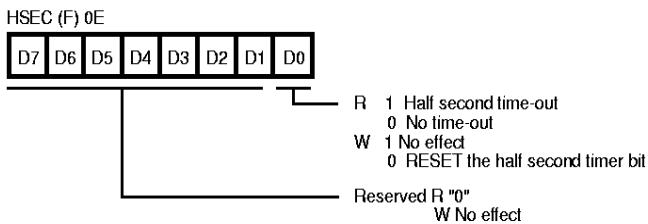

Figure 46. Half-Second Timer Status Register
**Half-Second Timer Status Register (HSEC).** The half-second timer status register (Figure 46) is a free-running timer clocked by the external 32.768 kHz crystal. In normal operation mode, every half-second, the timer will time-out and set bit 0 (D0) of the HSEC register to 1. The user can reset this bit for real timing. In Stop mode, this timer can be used as a Stop-Mode Recovery source. Every half-second, the timer will recover the Stop mode and bit 0 of the HSEC register will be set to 1. Therefore, in Stop Mode, the user can keep real time.